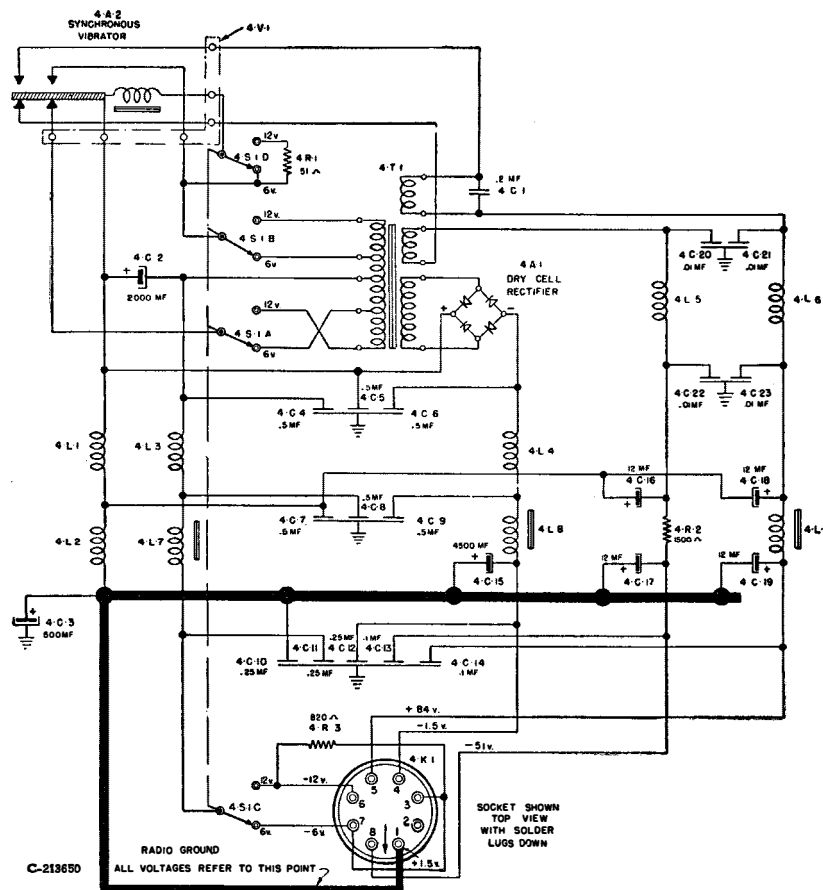

FIG. 20. POWER CONVERTER PE-104-A, SCHEMATIC DIAGRAM
17. Power Converter PE-104-A (FIGS. 20 & 21)
- a. Primary voltage enters connector 4-K-1 at point No. 1 to No. 6, or point No. 1 to No. 7 (as selected), Figure 20, and terminates at the center tap of the primary of Power Transformer (4-T-1). It is filtered by iron core choke (4-L-7), air core choke (4-L-3), and capacitors (4-C-11, 4-C-8, 4-C-4, and 4-C-2). The positive side of the vibrator is connected from the return bus and filtered to the vibrator by capacitors (4-C-3, 4-C-5, and 4-C-7) and air core chokes (4-L-1 and 4-L-2).
NOTE: POWER CONVERTER PE-104-A, PROCURED ON ORDER No. 29069-PHILA-45-10, IS SIMILAR TO THE POWER CONVERTER PE-104-A AS SHOWN IN FIGURE 20 WITH THE ADDITION OF BALLAST RECTIFIER 4-A-3 IN THE FILAMENT CIRCUIT AND WITH THE ELIMINATION OF CAPACITORS 4-C-20, 4-C-21, 4-C-22, 4-C-23, CHOKES 4-L-1, 4-L-3, 4-L-4, AND 4-L-5. IT IS ALSO IDENTICAL WITH ALTERNATE POWER CONVERTER PE-104-A SHOWN IN FIGURES 48-A AND 48-B WITH THE ADDITION OF BALLAST RECTIFIER 4-A-3 TO THE FILAMENT CIRCUIT.